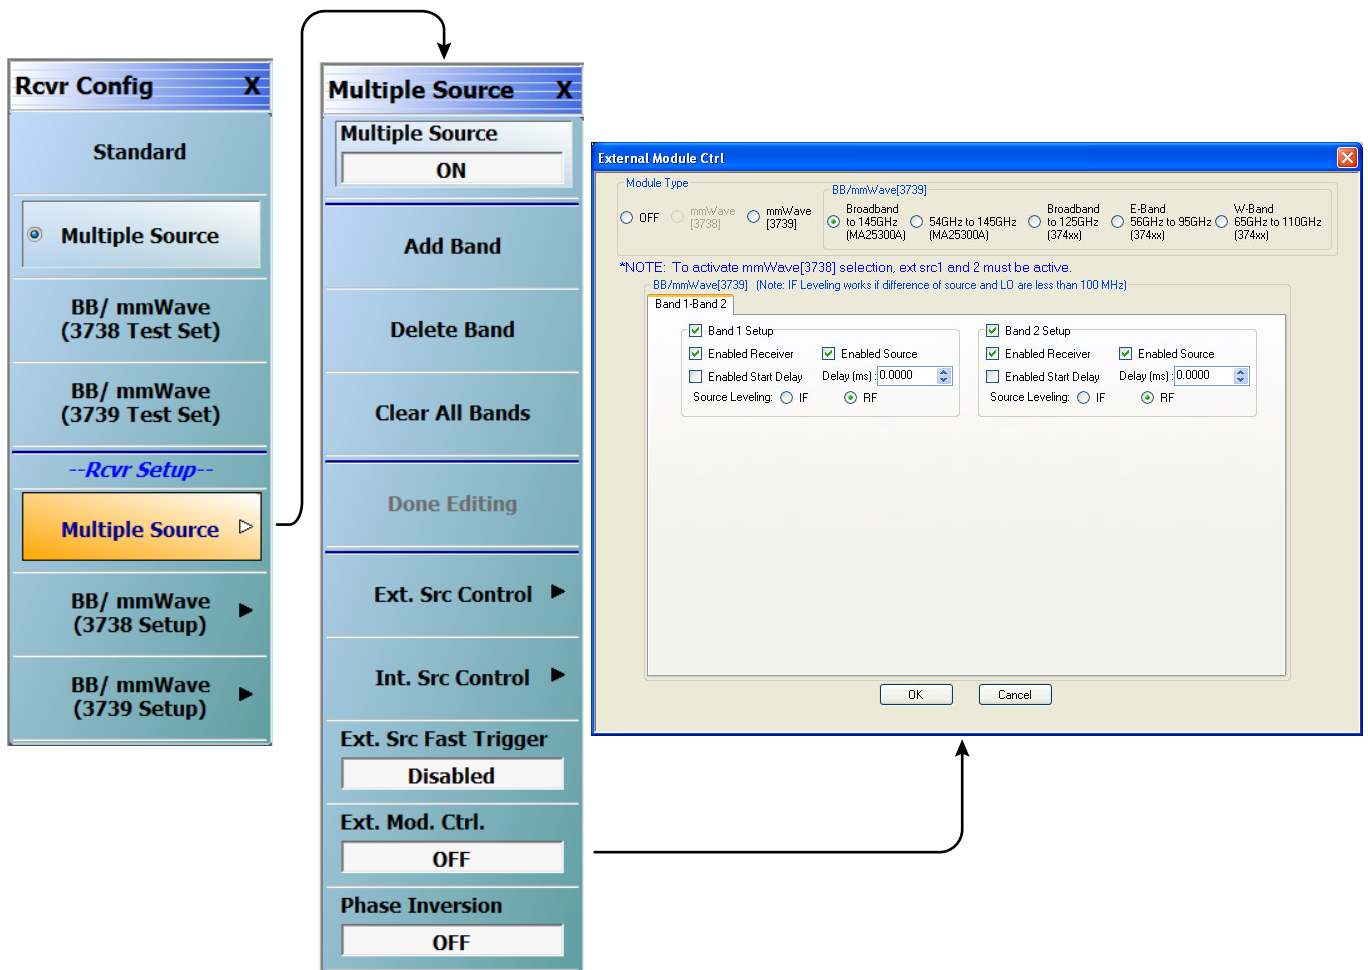

Figure 4-12. Receiver Configuration for Multiple Source (MS464xB Systems)
3. Navigate: Main | Application | Rcvr Config | (See Figure 4-12).